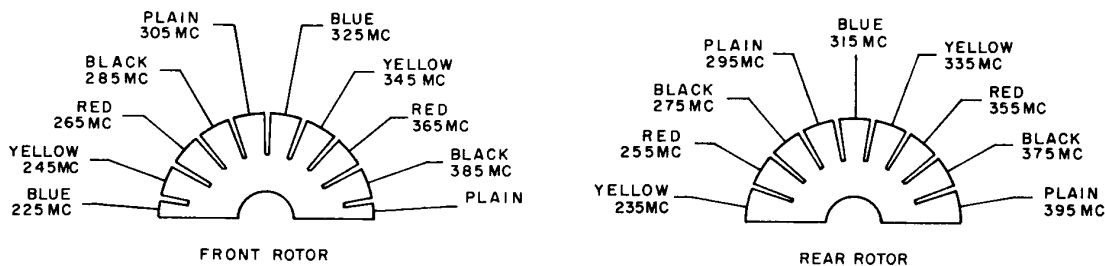

Figure 5-24. R-F and Power amplifier Module, Tuning Capacitor Rotor Tab Z1, Z2, and Z3, Adjustment Diagram
(3) PROCEDURE.
- (d) Bend the rotor tab which has just come into mesh with the stator on tuned circuits Z1 through Z5 for a maximum reading on the TS-505/U. Refer to figures 5-24 and 5-25.